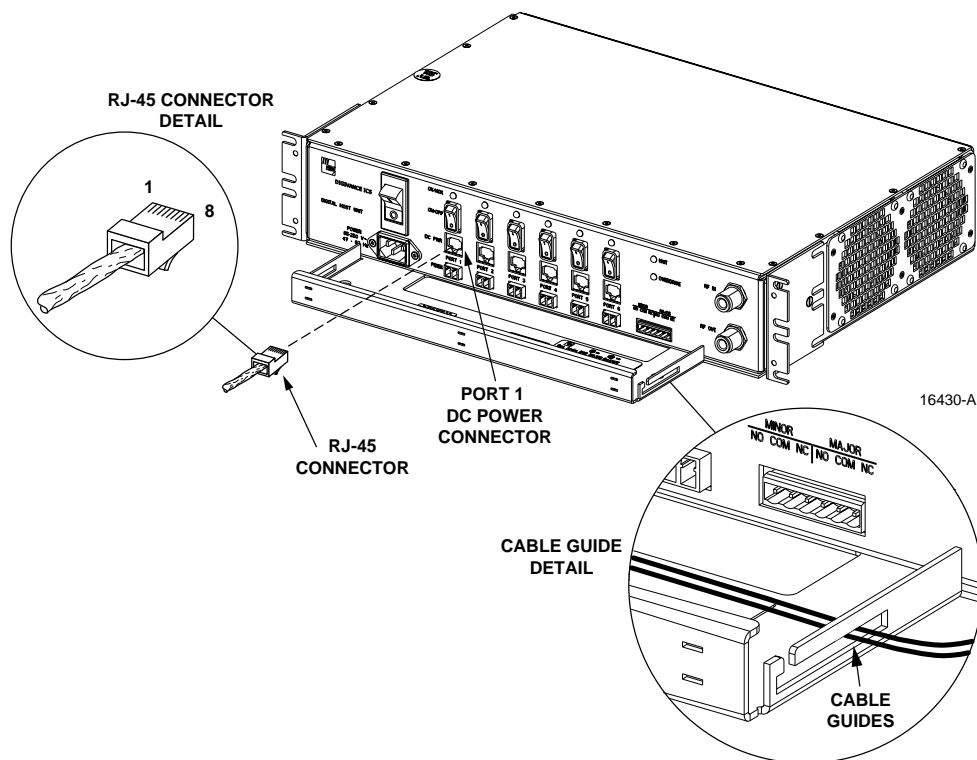

Figure 21. 48 Vdc Power Cable Connection
5. Connect the DC power cable to the DHU port 1 DC PWR jack as shown in Figure 21.
6. Place the DC power cable within the cable guides provided (see Figure 21) and then dress and secure the cable at the DHU per standard industry practice.